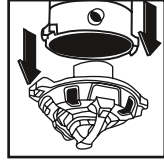

Fig. 3
3. Lift the power head from the container (Fig. 3)